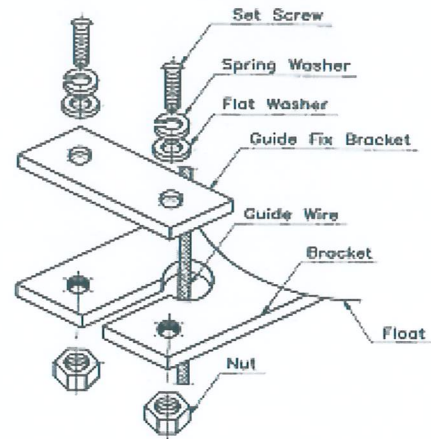

Fig. 14
- Flange the transmitter to the tank level gauge using the accessories shown in Fig. 14. In doing so, flange the transmitter such that the housing section containing the alarm contacts and the terminal box form a vertical or horizontal line.
- Ensure the driving pin engages properly. Do not use force in joining the coupling together again. Tighten hexagonal nuts (5).
⑧ Disassemble set screw from bracket attached on the both side of float, and separate guide fix bracket from it. Then, put the end of wire into a hole on the bracket and tighten the set screw again (Refer to fig. 14).